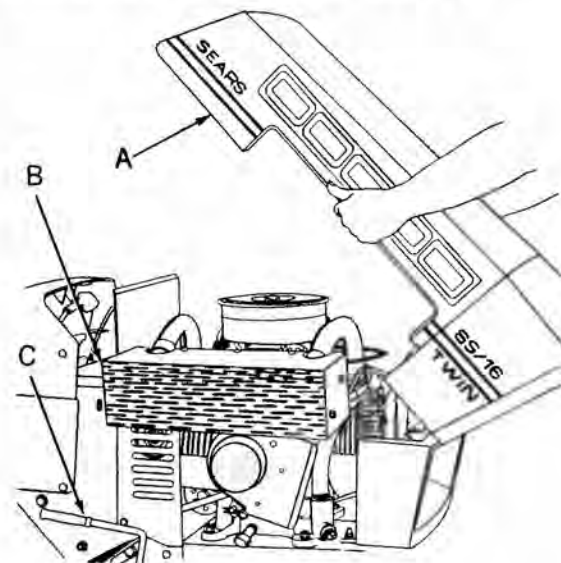
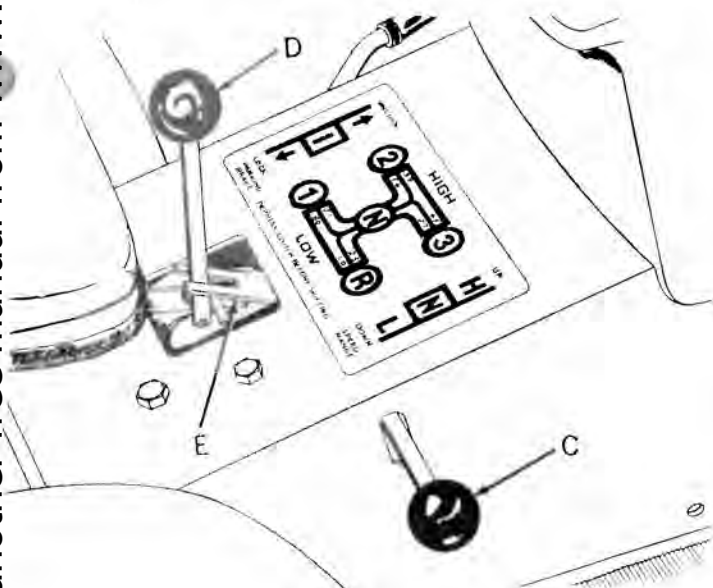
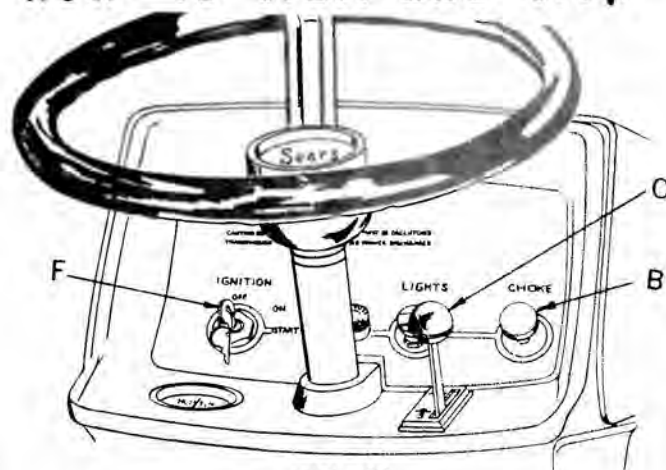

FIG. 3
FIG. 9
FIG. 11
2. Advance throttle control lever (C), to about  $\frac{1}{2}$  throttle.
3. This Tractor is equipped with two safety switches. One switch is located on the gear shift lever (D, Fig. 9, Page 6, at point E). The other switch is located on attachment clutch lever (C, Fig. 3, Page 4). The gear shift lever must be in neutral (center position). The attachment clutch lever must also be in disengaged (out), position for engine to start. Turn key (F, Fig. 11, Page 6), in ignition-starter switch clockwise to engage starter. When engine starts, release key. After engine starts, push in choke control as engine warms up. Let engine warm up before applying load. CAUTION: Do not run starter continuously for more than 30 seconds at a time. If after several attempts, engine does not start, move throttle control (C), to fast position. Wait two minutes and try again.